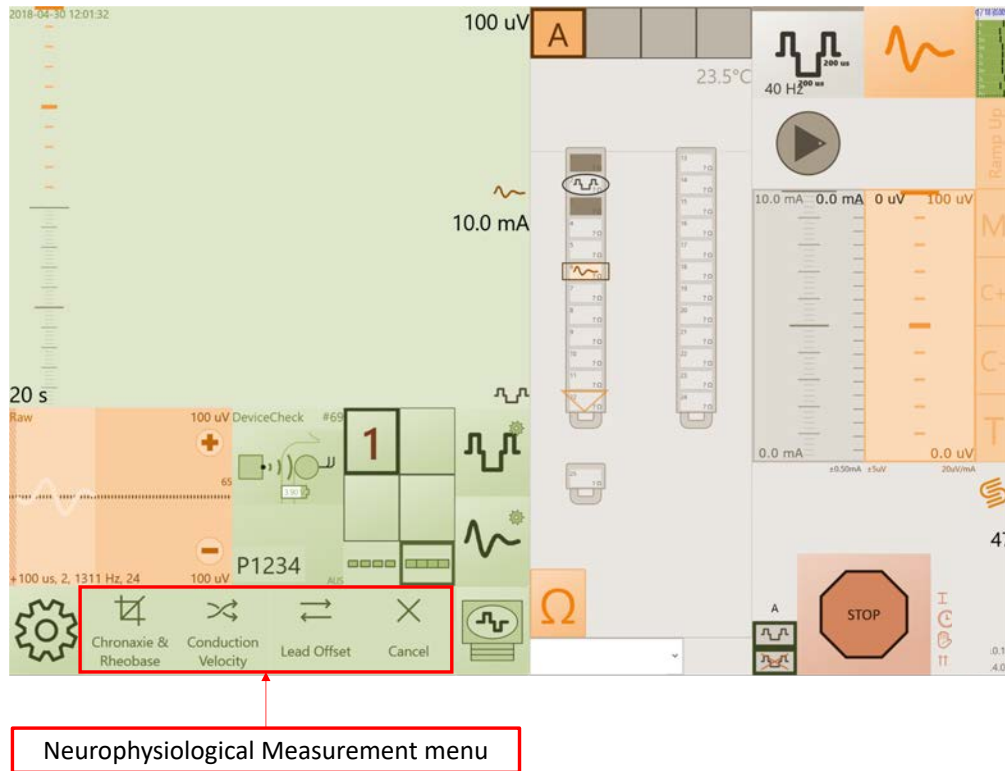

Figure 7.12 Location of controls to initiate neurophysiological measurements.
1. Touch the *CLS* icon , then touch the *More...* field and select *Show Neurophysiological Measurements*. The neurophysiological measurement menu will appear adjacent to the navigation menu icon (Figure 7.12).